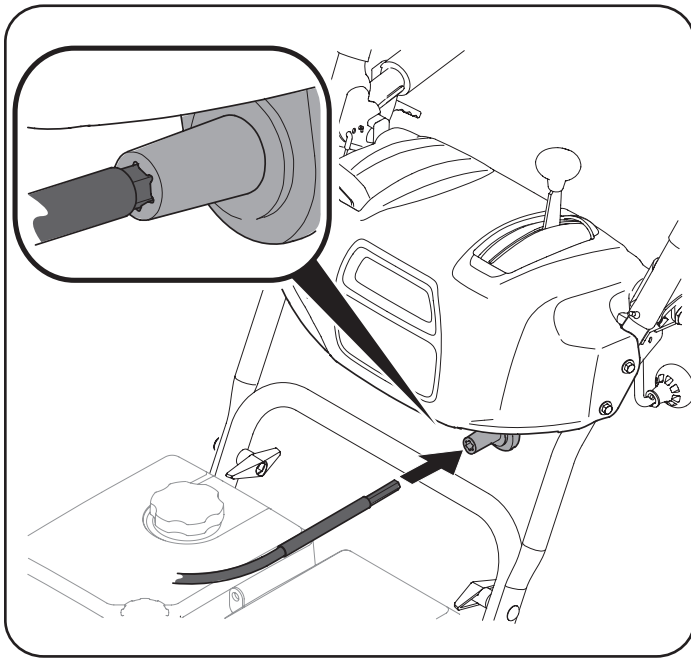

Figure 8
11. Insert hex end of flex shaft into chute control rod coupling under dash panel. See Figure 8.